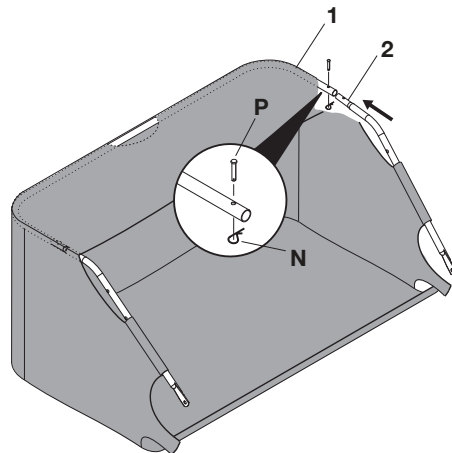

Figure 14
STEP 14: (SEE FIGURE 14)
- Slide the upper hopper tubes (2) into the rear hopper tube (1) and connect together using 1/4" x 1-1/8" clevis pins (P) and 3/32" hair cotter pins (N).